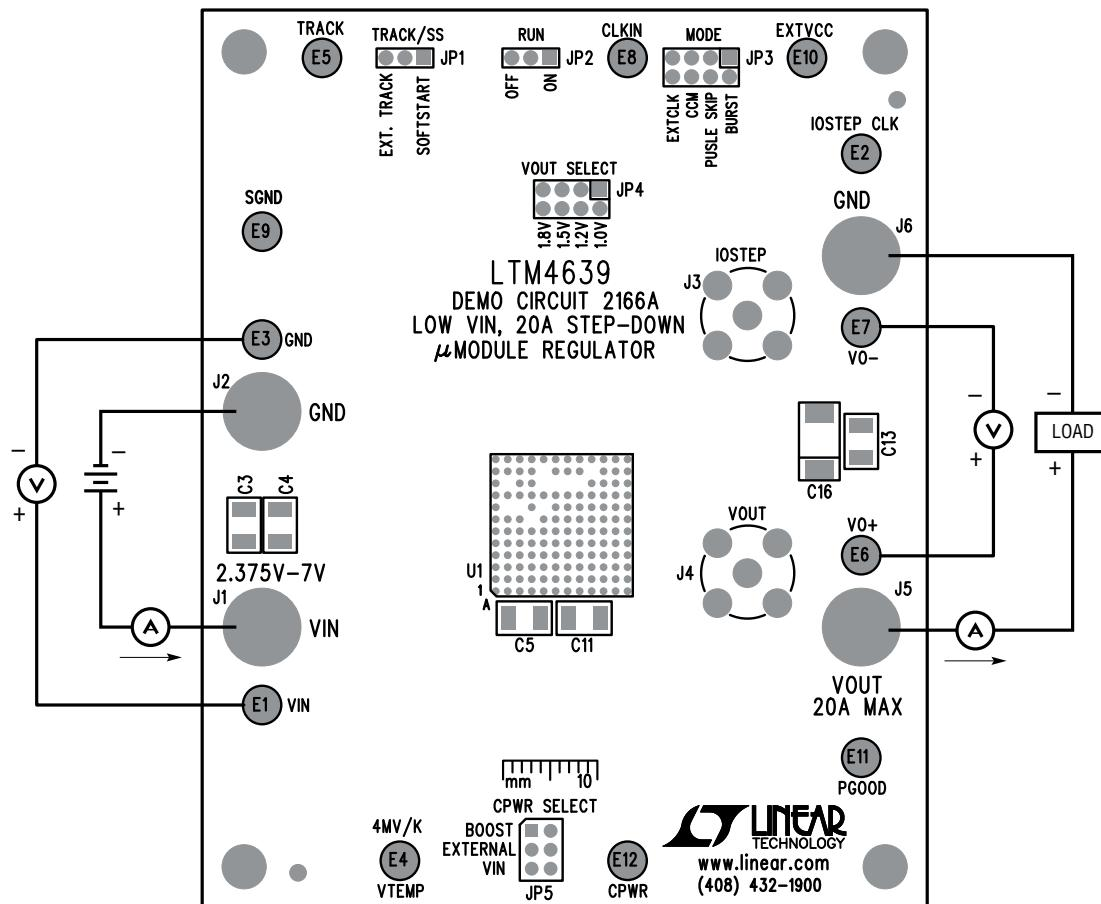

Figure 1. Measurement Setup of DC2166A
Demonstration circuit DC2166A is an easy way to evaluate the performance of the LTM4639EY. Please refer to Figure 1 for proper measurement equipment setup and follow the procedure below:
2. With power off, connect the input power supply, load and meters as shown in Figure 1. Preset the load to 0A and V_{IN} supply to 3.3V.